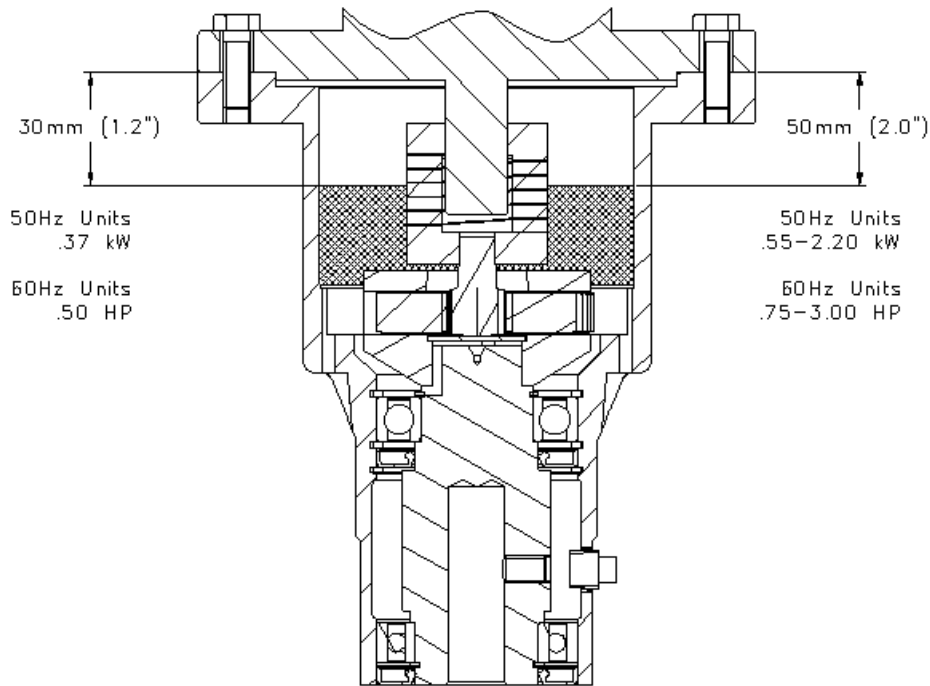

FIGURE 9
7.5 An alternate method to achieve the proper amount of grease required, is to measure from the top of the mixer housing (36) down to the grease level as shown in Figure 9.
- c. Pack the gear chamber with fresh grease (see Table 3 or Figure 9). Paddle the grease to fill voids and remove air pockets, rotating the shaft and shaking the housing while paddling.